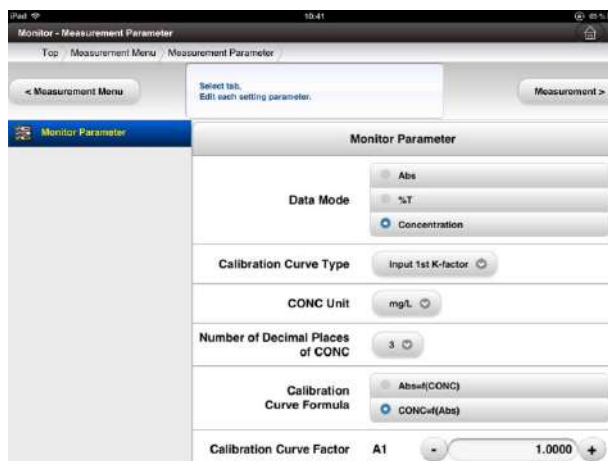

Fig. 4-164 Monitor Conditions Window
- (2) The monitor measurement window (Fig. 4-163) will then be shown. Simultaneously the lamp will be automatically turned on to start photometry. The current set wavelength and its photometric value will be shown on the monitor. Photometric values will be updated every two seconds. The functions listed in Table 4-67 can be used from the monitor measurement window. When setting measurement conditions such as data mode, press  [Measurement Parameter button] icon. Then, the window of Fig. 4-164 will be shown. See Table 4-68 for setting measurement conditions. After setting measurement conditions, press  [measurement button].